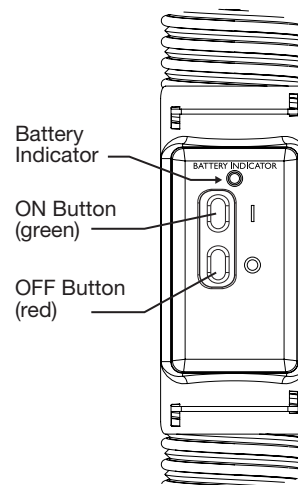

Fig 8
- **Wireless Remote & Holder (Fig 8)** This feature is part of the control system and allows the operator in the attic to turn “on” and “off” the machine via a wireless signal. The green push button turns on the entire machine and the red push button turns it off. The indicator light at the top of the wireless control will illuminate when either button is depressed, signifying that the batteries are in good condition and the signal has been sent to the machine on the ground.